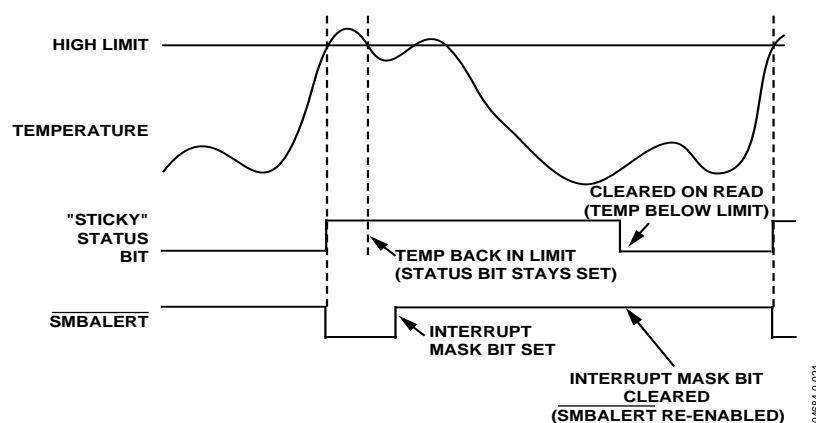

Figure 16. How Masking the Interrupt Source Affects $\overline{\text{SMBALERT}}$ Output
7. Periodically poll the status registers. If the interrupt status bit is cleared, reset the corresponding interrupt mask bit to 0. This causes the $\overline{\text{SMBALERT}}$ output and status bits to behave as shown in Figure 16.